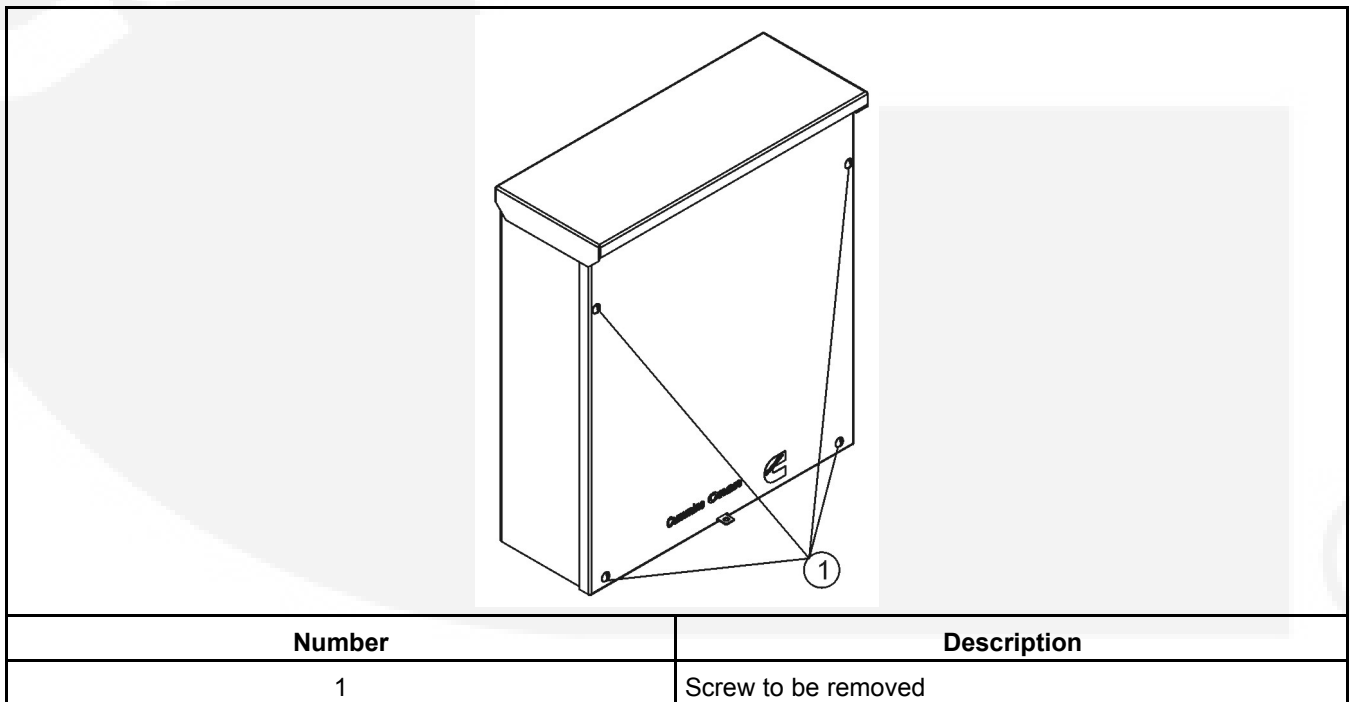

FIGURE 11. TRANSFER SWITCH WITHOUT CONTROLLER
- For models without a controller, a model and serial number label is located on the inner panel. To view the label, remove the outer panel, see Figure 11.